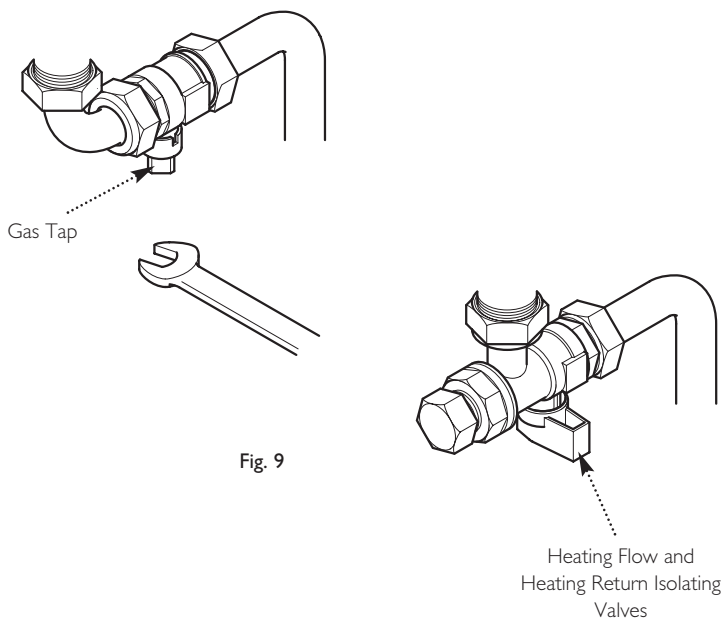

Fig. 9
Turn off the gas supply at the meter and call your gas supplier immediately. It is possible to isolate the boiler at the isolating valve (Fig. 9).
1. Using a suitable open ended spanner, turn the square nut on the gas tap through 90° (1/4 turn) to isolate the gas supply at the boiler (Fig. 9).
2. The isolating valves are positioned under the boiler and can be closed by turning their taps to the right towards the wall (Fig. 9).